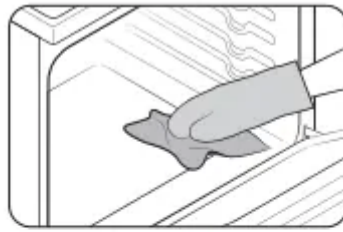

Fig. 1
- Wipe up debris from the oven bottom. (Fig.1)